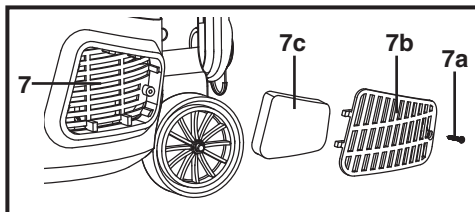

Fig. 16
- > Loosen the screw (7a) anticlockwise and remove the cover (7b) (Fig. 16).